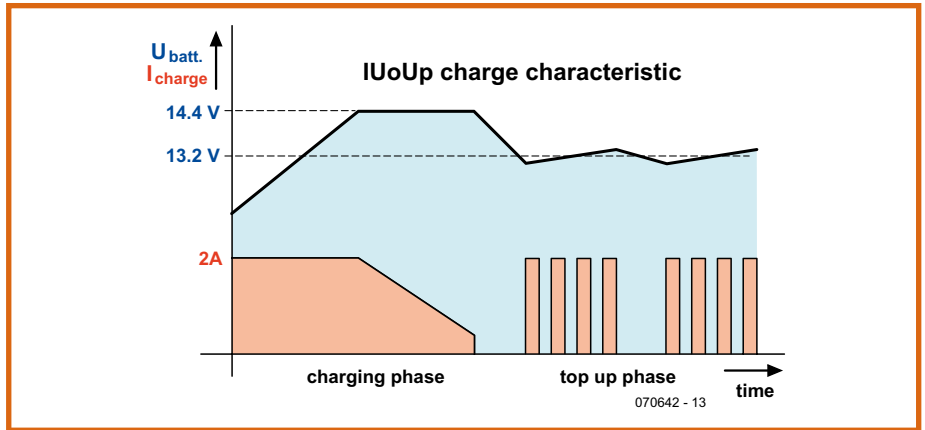

Figure 1. IU_0U_p charge curve.
- Charging the battery and maintaining it at full charge using an IU_oU_p charging curve (see **Figure 1**)